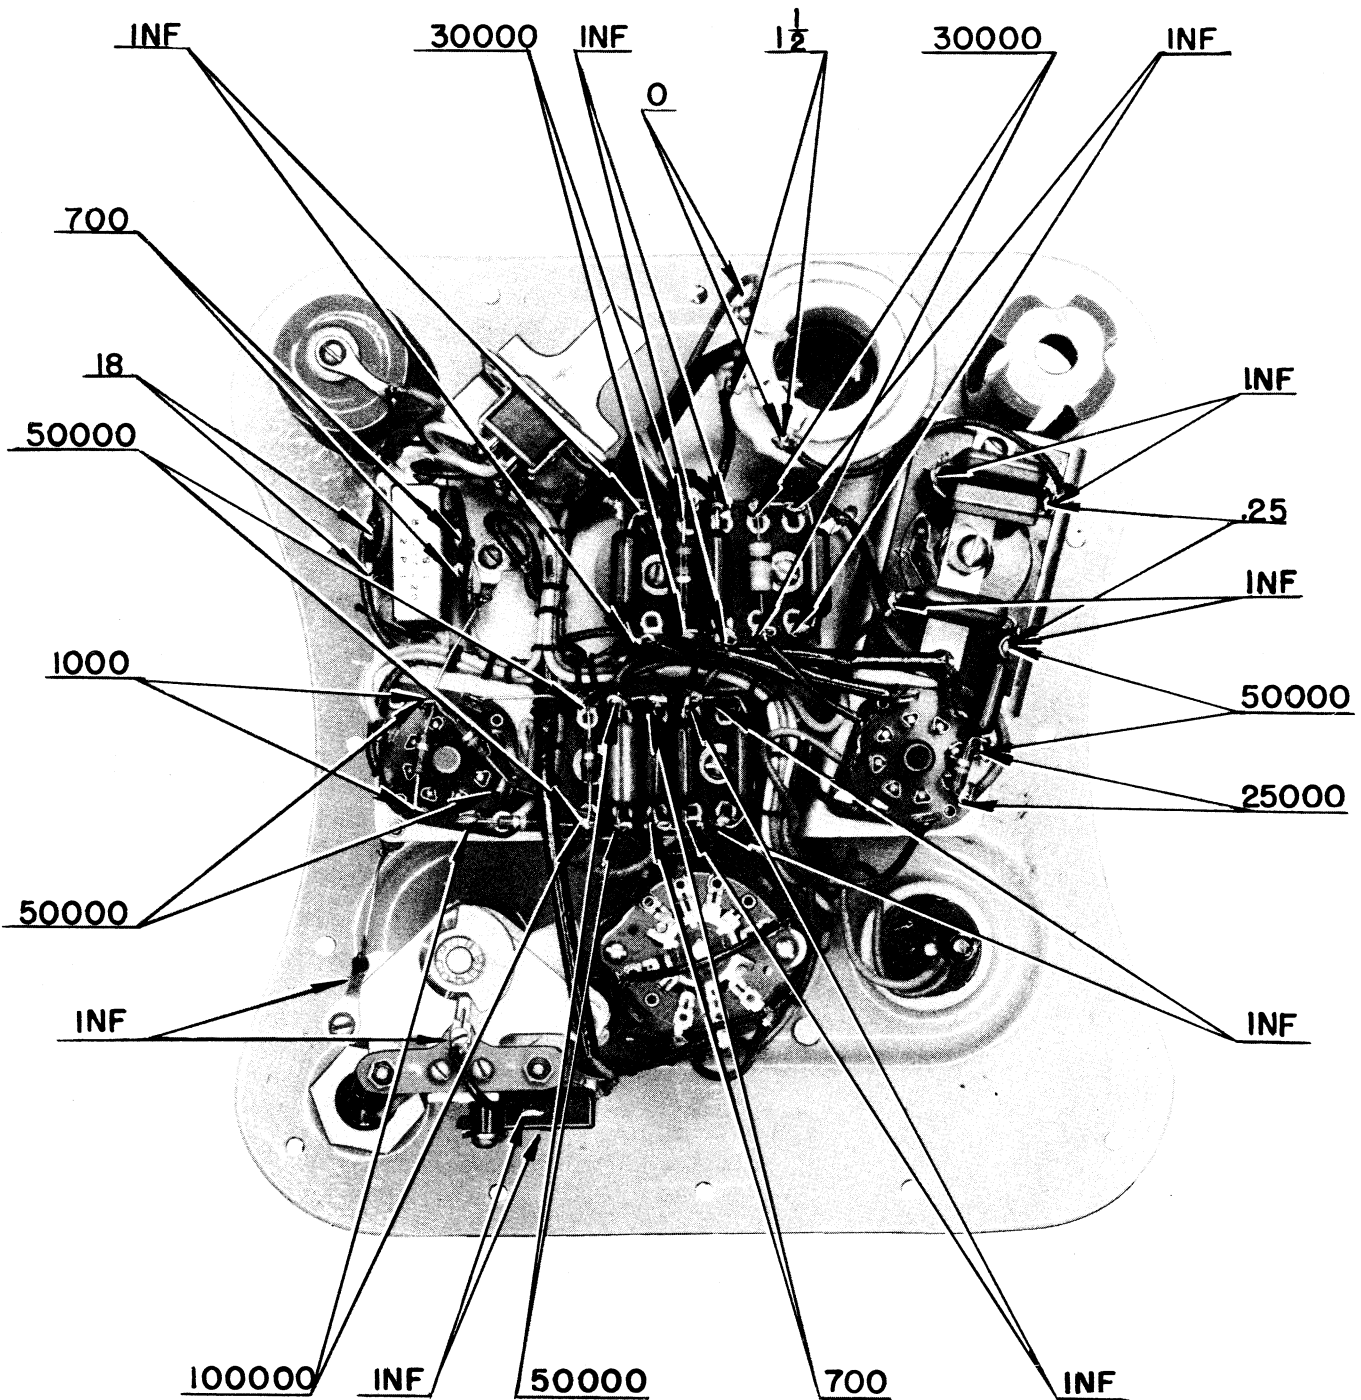
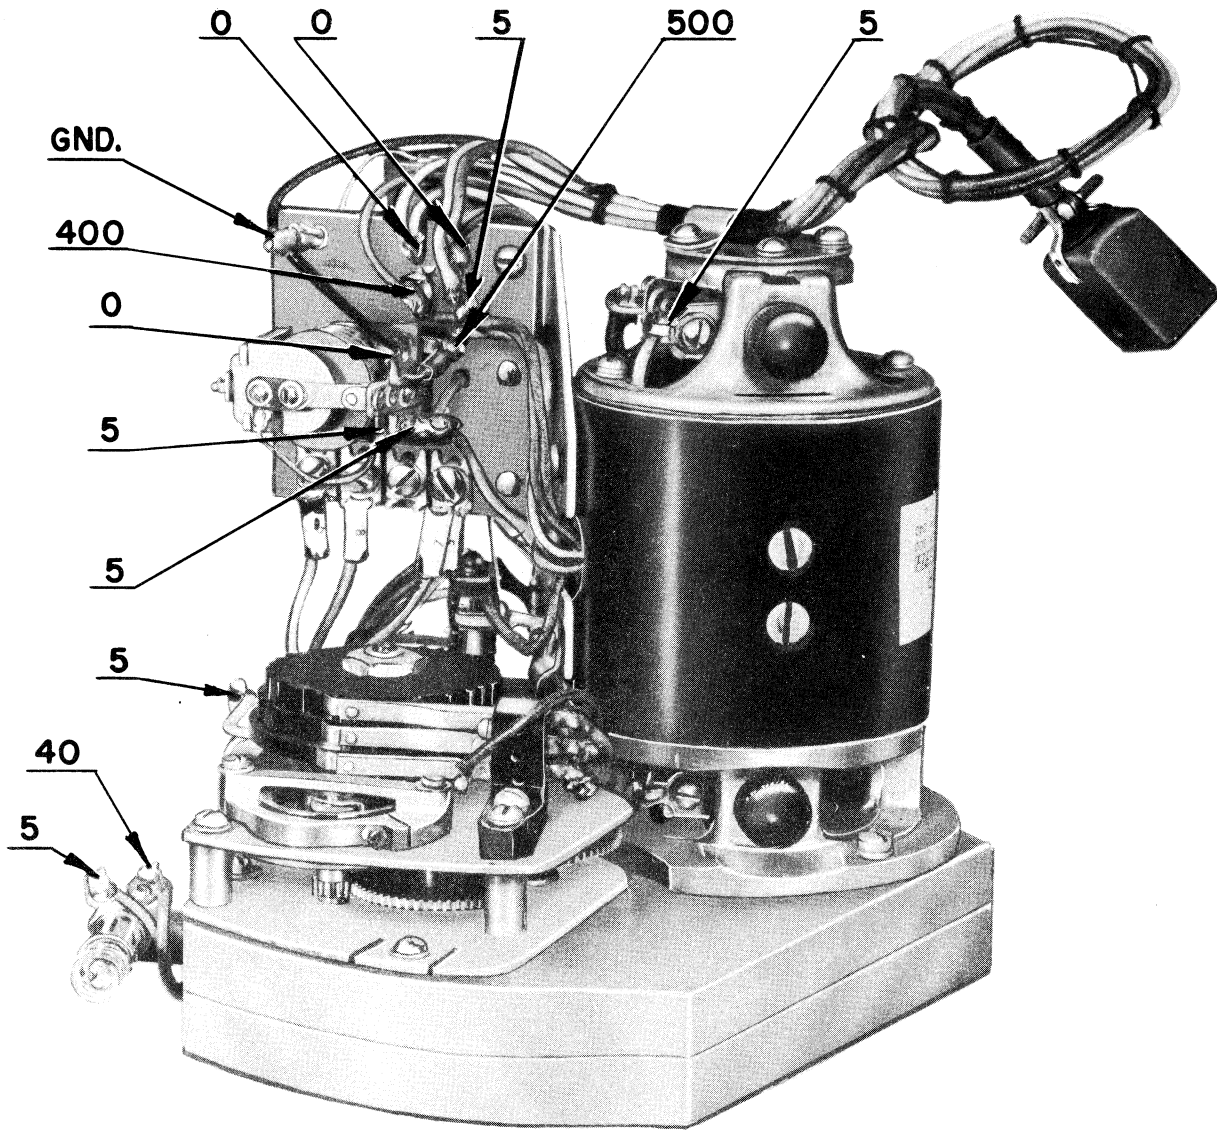

Figure 27—Radio Transmitter BC-778-C, BC-778-D or BC-778-E, Point Resistances of Cover
Figure 29—Radio Transmitter BC-778-C, BC-778-D or BC-778-E, Point Resistances of Power Supply
*i.* Approximate values of resistance for all models, except Radio Transmitter BC-778-A, are shown in figure 27 for the cover and in figure 29 for the power supply. These readings are all in ohms. In figure 27 the points between which the readings are to be taken are indicated by arrows. In figure 29 all readings are above the ground point indicated on the diagram.